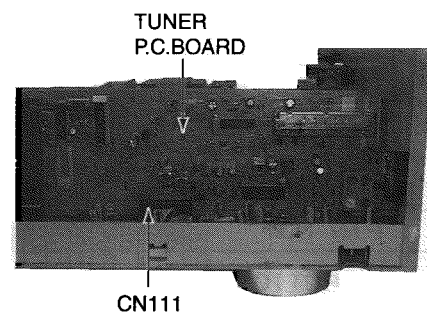

Fig.5
### (4) Remove TUNER P.C.Board (See Fig.5)